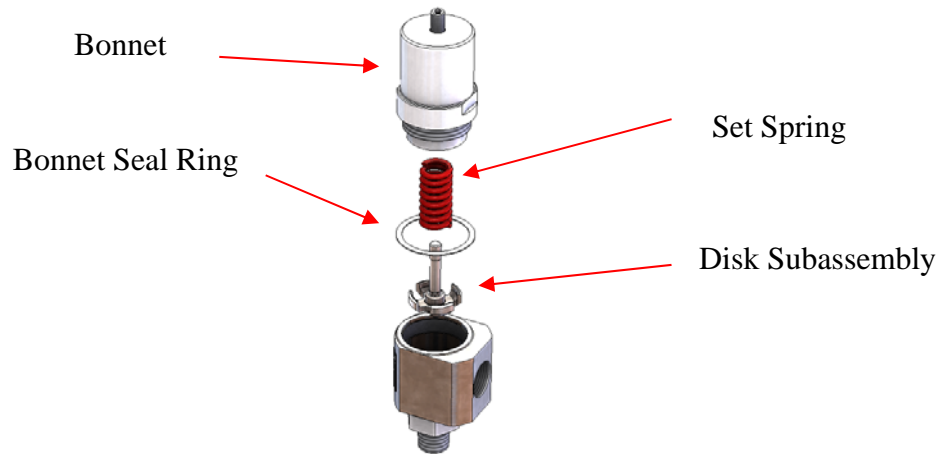

Figure 12: Trim Components
6. Remove and discard the disk subassembly and bonnet seal ring. See Figure 12.